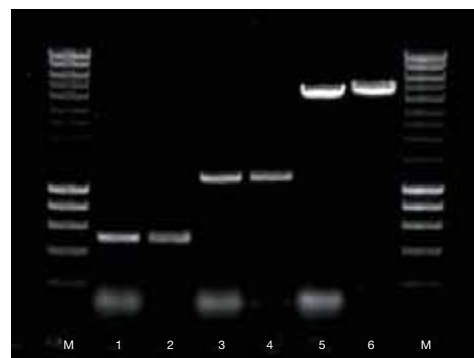

Fig. 1 Purification of PCR products.
The VELOCITY PCR Kit contains all necessary components for high-fidelity PCR and subsequent preparation of the PCR product for TA cloning. The unique properties of VELOCITY DNA Polymerase, combined with an optimized buffer system also allows superior results even with problematic templates such as high GC or AT content (Fig. 1).
Fig. 1. Amplification of different types of GC-rich DNA fragments from human genomic DNA. VELOCITY, a competitor DNA polymerase (P) and wild type *Pfu* were compared. Lanes 1–4 are a 728bp fragment of the GP150 gene (76.9% GC), a 724bp fragment of the MRGRE gene (68% GC), a 723bp fragment of the NM_022372.3 gene (66.9% GC) and a 788bp fragment of the NM_033178.2 gene (70.9% GC) respectively. Reactions were set up in 50μl using 25ng human genomic DNA and 0.2μM of each primer, 0.5μl dNTPs, 5% DMSO and the recommended PCR buffer and incubated at 95°C for 5min, followed by 30 cycles at 95°C for 30s, 60°C for 30s, and 72°C for 40s. 5μl was then run on a 1.5% TAE agarose gel. HyperLadder™ IV (M) (Cat No. BIO-33029).
ISOLATE PCR & Gel Kit is designed for the purification of PCR products (Fig. 1) and for the isolation of DNA fragments from TAE and TBE agarose gel slices.